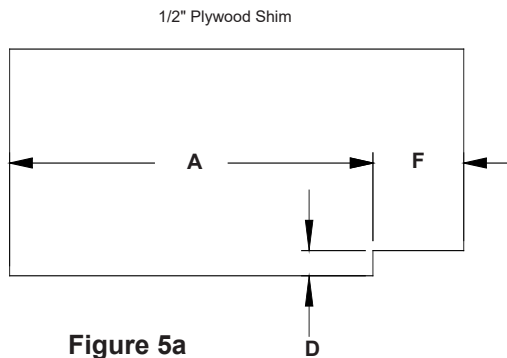

Figure 5a
3. Prepare a 1/2" plywood shim per dimensions A, F, and D below in Figure 5a. Install the shim on top of the subtread between the LJ-8010-2 tread and the closed side finished skirtboard. The shim will run beneath the false tread on the closed side of the stair.